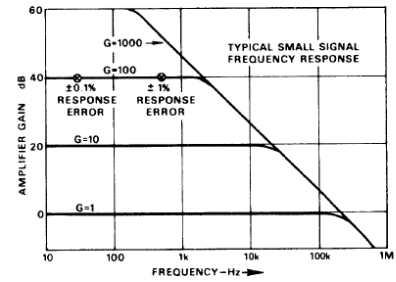

Figure 6. Small Signal Frequency Response (-3dB)
**Dynamic Performance:** Settling time and unity gain bandwidth are directly proportional to gain. As a result, dynamic performance can be predicted from the well-behaved curves of Figure 6.
DYNAMIC RESPONSE (see Fig. 6)